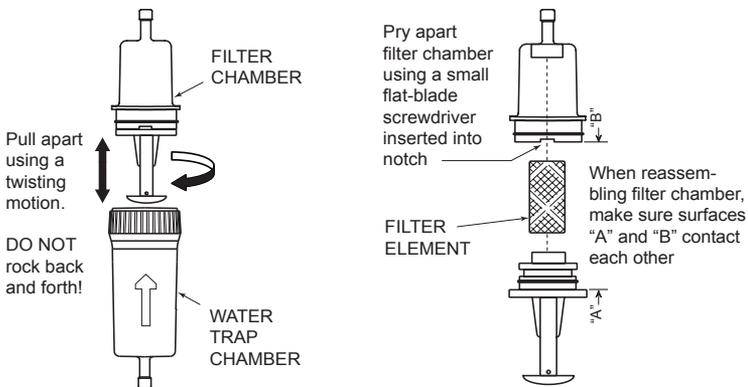

Fig. 6.3
1. Remove water trap chamber per Figure 6.3.